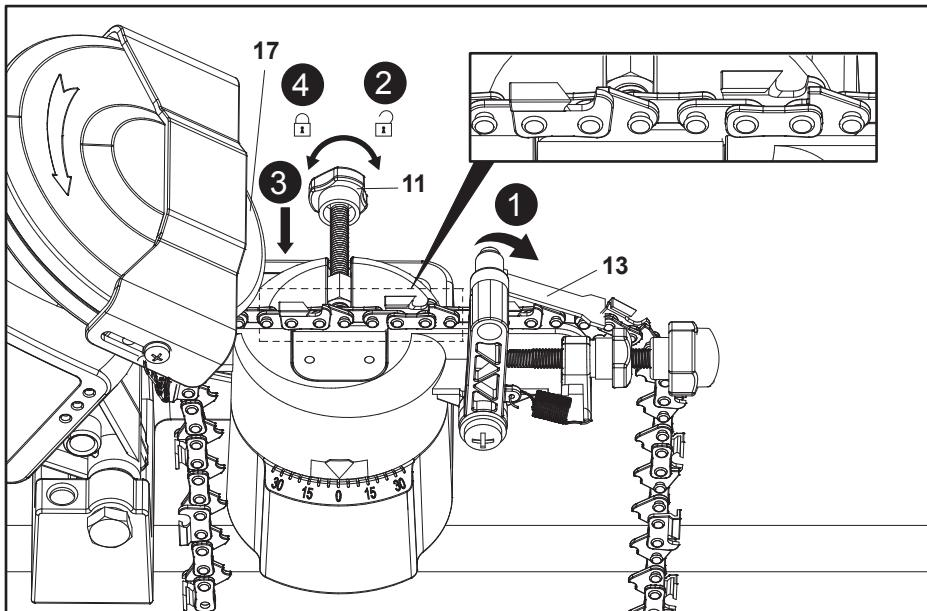

Fig. 4
1. Flip the chain stop (13) backward and let it rest in its open position (Fig. 4, step 1).
2. Open the vice jaw by turning the clamping knob (11) anticlockwise (Fig. 4, step 2) until there is enough clearance for the saw chain.
3. Lay the saw chain with the drive links facing bottom into the guide rail through the vice jaw (Fig. 4, step 3). The cutting direction must face the grinding disc (17).
4. Clamp the saw chain slightly by turning the clamping knob (11) clockwise (Fig. 4, step 4). Ensure the saw chain can still move freely.